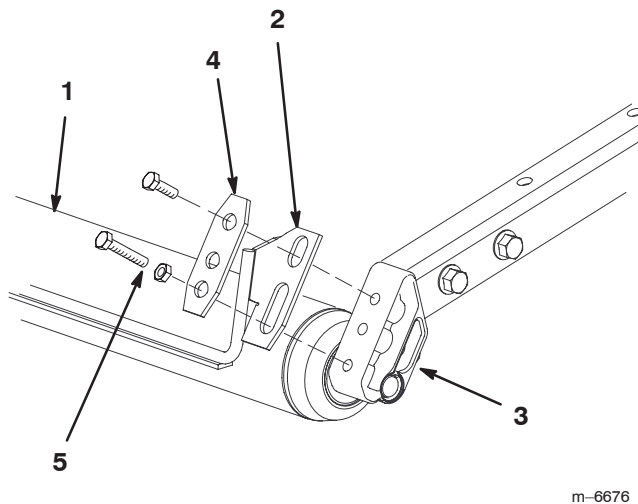

Figure 1
2. Loosely mount each end of scraper and a scraper plate to each roller mount with (2) capscrews and a jam nut (Fig. 1). The longer capscrew and jam nut are to be installed in the lower mounting hole.